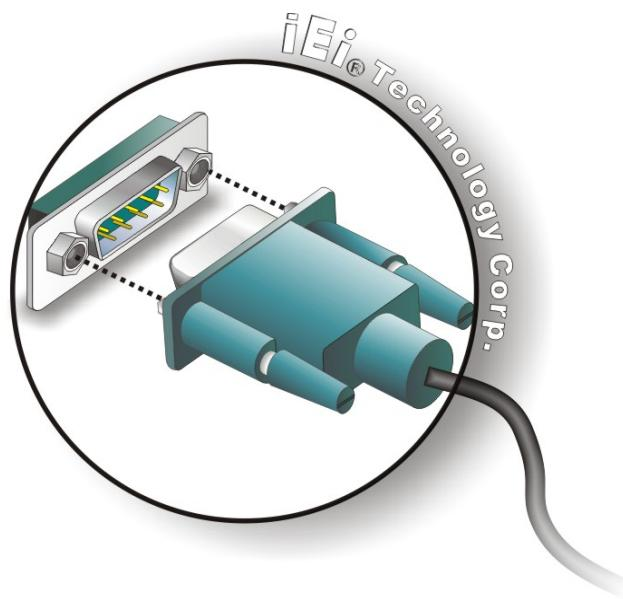

Figure 3-28: RS-232 Serial Device Connector
Step 2: Insert the serial connector. Insert the DB-9 connector of a serial device into the DB-9 connector on the external peripheral interface. See Figure 3-28.